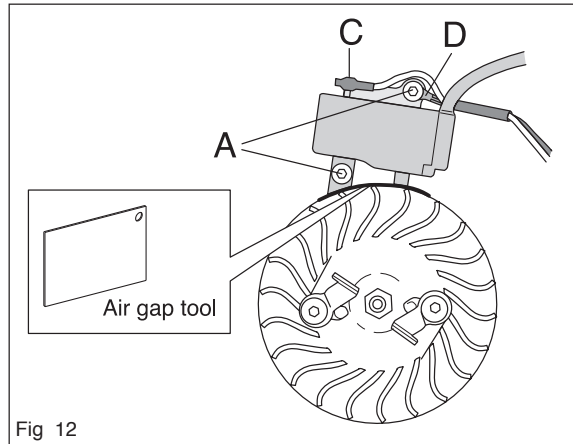

Fig 12
Turn the flywheel so that the magnets are in line with the ignition module. Fit the ignition module with the plastic feeler gauge (502 51 34- 02) held in position at the same time, without tightening the bolts. Fit the earth cable (black) (A). Set a distance of 0.3 +/- 0.1 mm, between the ignition module and magnet. The measurement applies to the two lowest lugs on the ignition module. Tighten the screws, tightening torque 4.5–6 Nm. Fit the blue cable on the ignition module (see figure 12).